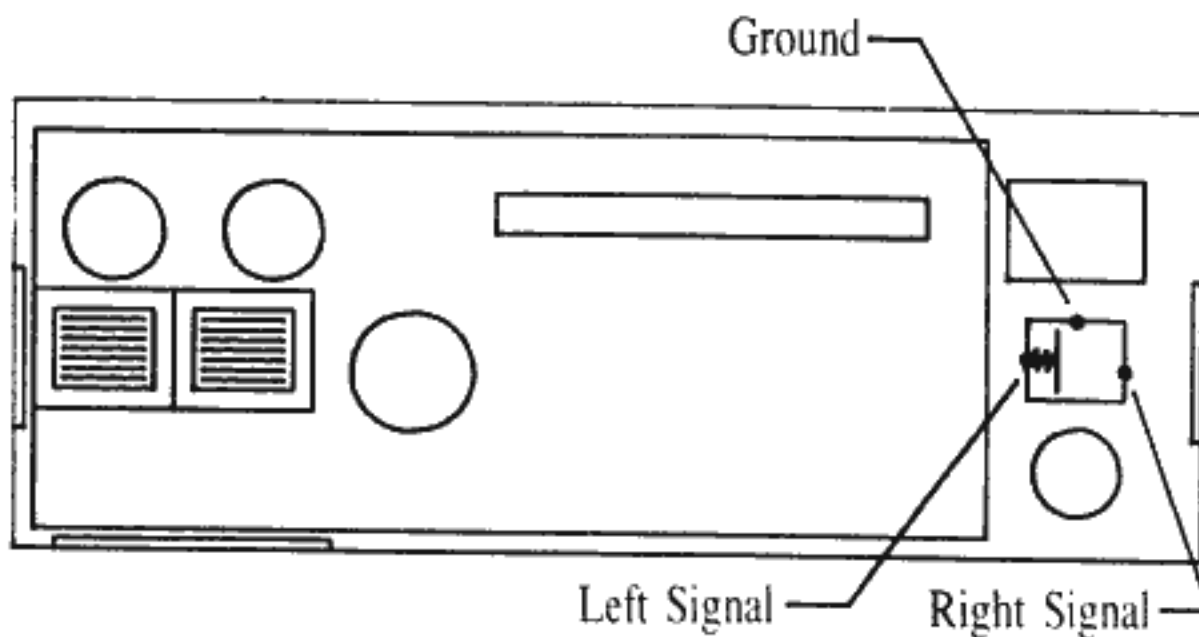

Fig. 13 - CDx-Driveless Audio Jack Specs
- 6) If your drive has a line-level audio output connector and you want this brought out to the outside, you will need to obtain the appropriate connector and wire it to the 3.5mm jack mounted on the back panel assembly (removed in step 2). See fig. 13 for wiring details (consult your CD-ROM drive documentation for the other end).